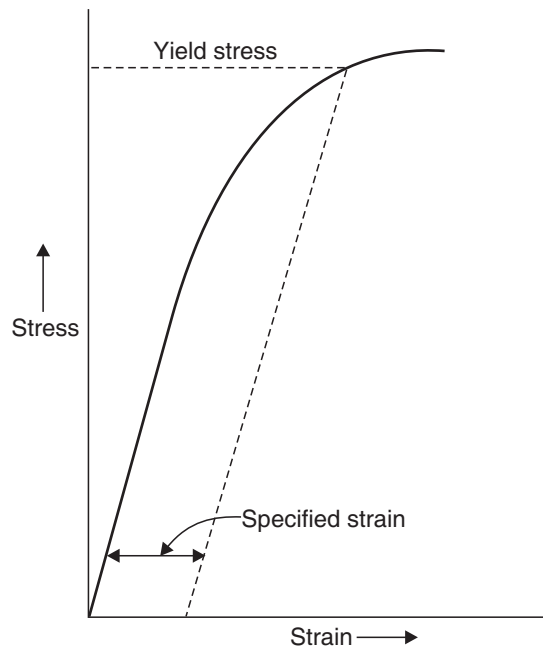

Fig. 12.10 (b)
**Stress-strain curve for ‘brittle materials’.** *Structural steel is the only material that exhibits a marked yield point.* Most of the other materials show a gradual change from linear to the non-linear range. Brittle materials have a very low proportional point and do not show the yield point. Fig. 12.10 (b) shows a typical stress-strain curve for *cast iron*.